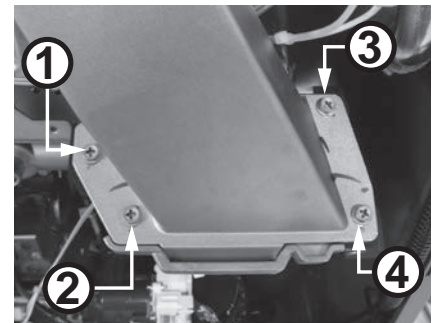

Figure 110 - Remove fan assembly screws
- 10 Locate the four (4) screws securing the fan assembly to the burner door assembly as shown in Figure 110. Use a Phillips screwdriver to remove the screws. Place the screws aside in a safe place for reinstallation.